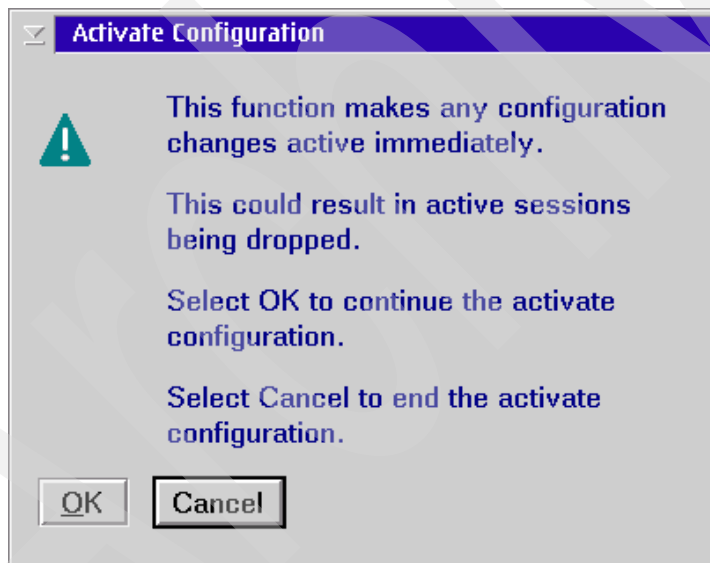

Figure 3-21 Activate configuration warning
1. Starting with the Advanced Facilities panel, click **Activate configuration** and **OK**. The Activate Configuration Warning panel is displayed (see Figure 3-21).